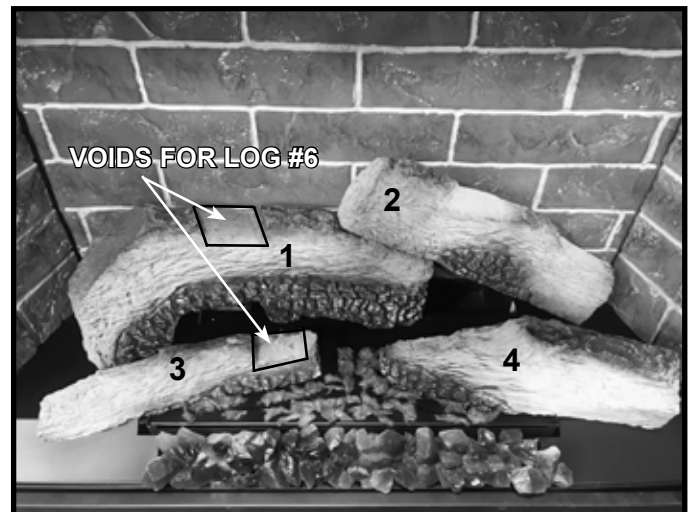
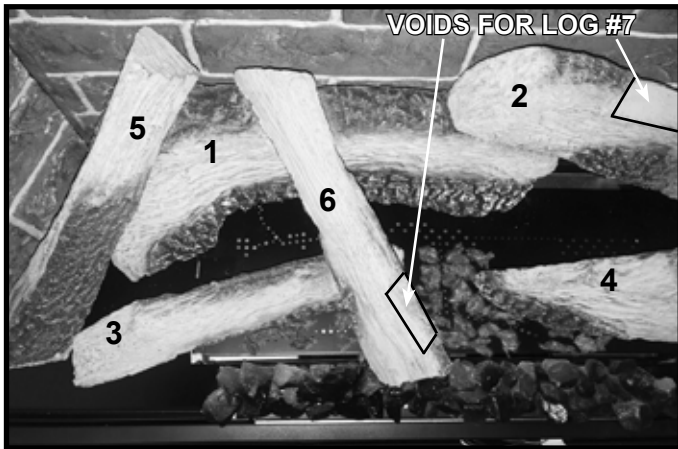
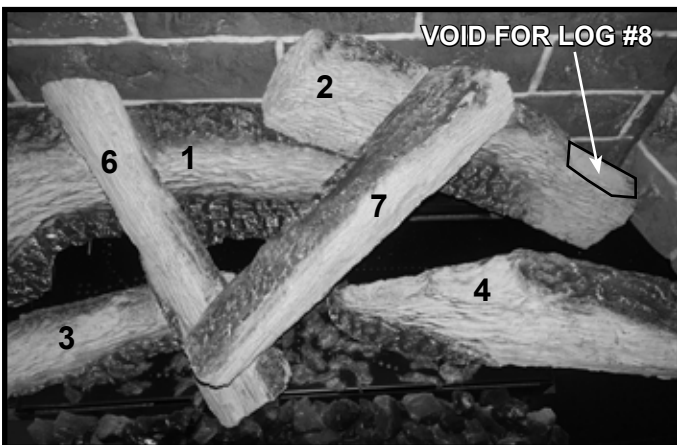
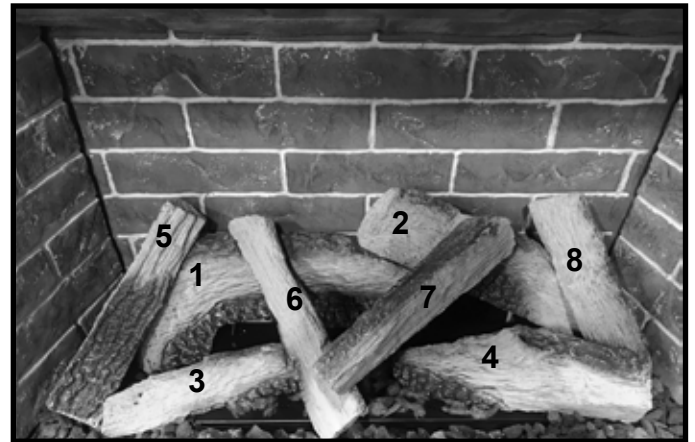

Figure 7 Embers Installed
Figure 9 Install Log #6
Figure 10 Install Log #7
Figure 11 Install Log #8
7. **LOG #6:** Log #6 will rest on the voids of Log #1 and Log #3 and the ember tray as shown in Figure 7. Install log by placing it on top of the log voids. The tip of the log may contact the Teco-Sil rock in the ember tray. See Figure 9.
8. **LOG #7:** Log #7 will rest on the two voids of Log #2 and Log #6 as shown in Figure 9, install log by placing it on top of these voids. Place the log so that the bark detail faces the back wall of the firebox. See Figure 10.
9. **LOG #8:** Log #8 will rest on the void of Log #2 as shown in Figure 10 in the back right corner of the firebox. The right end of Log #8 will rest on the base pan. See Figure 11.